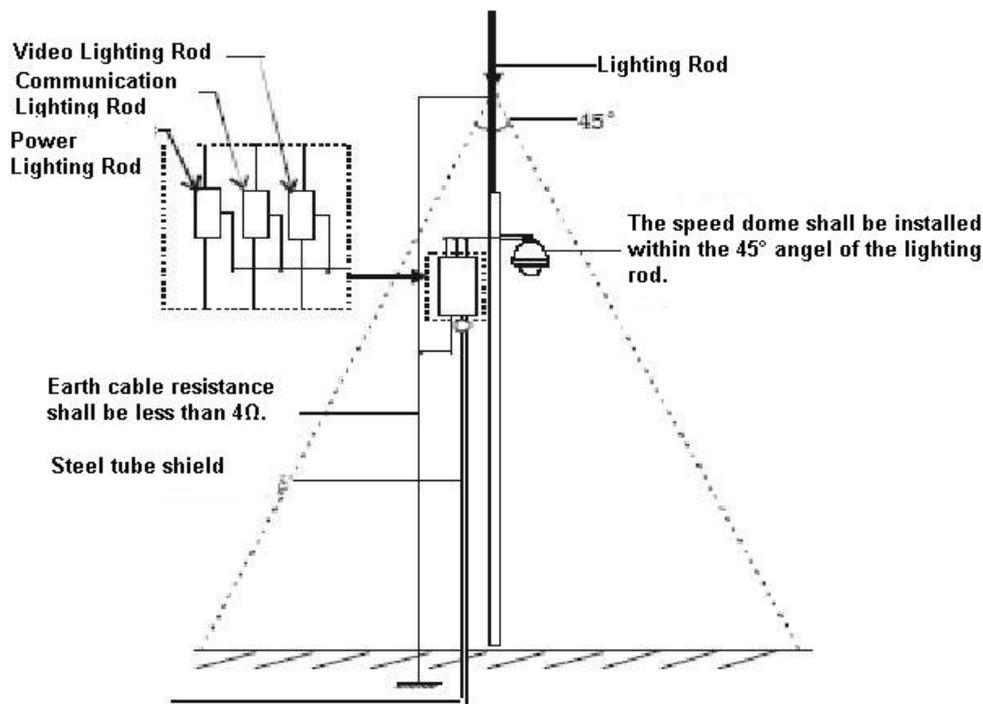

Figure 10-1
- z System shall adopt equal-potential wiring. The earth device shall meet anti-jamming and at the same time conforms to your local electrical safety code. The earth device shall not short circuit to N (neutral) line of high voltage power grid or mixed with other wires. When connect the system to the earth alone, the earth resistance shall not be more than 4Ω and earth cable cross-sectional area shall below 25 mm^2 . See Figure 10-1.